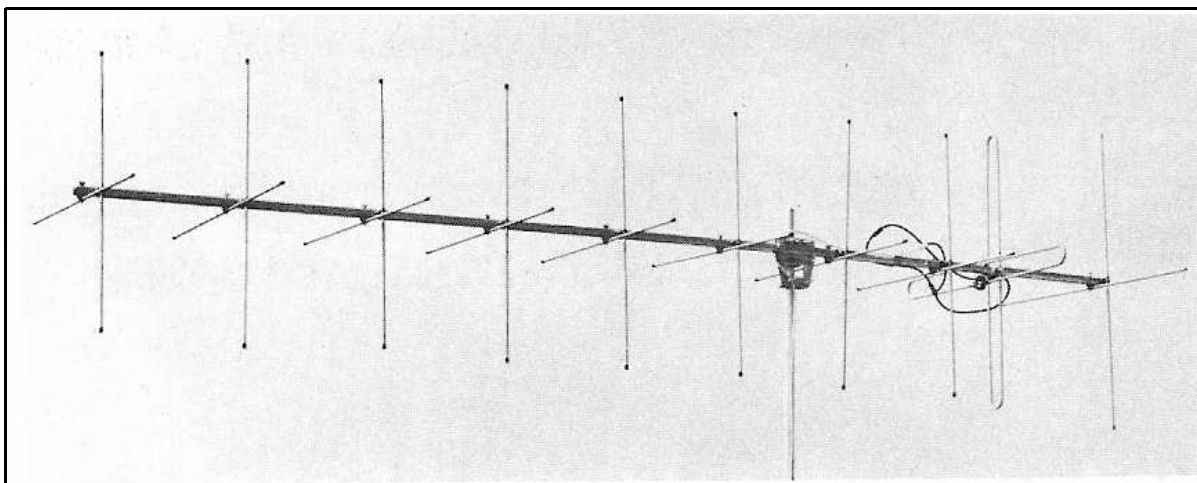

Fig 2: Photograph of the J-Beam Moonbouncer.
**Table 1: List of the required cabinet pieces including accessory parts. (see Figs 2 to 8).**
Fig 2 shows a photograph of the new ten element crossed Yagi of the MOONBOUNCER series of J-Beam antennas which has now been reduced in length from 4.92 metres to 3.65 metres.